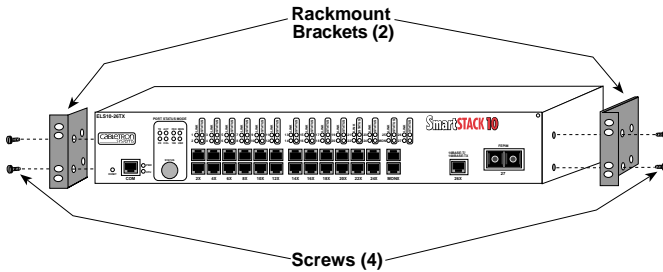

Figure 2-3. Attaching Rackmount Brackets
1. Attach the rackmount brackets to either side of the ELS10-26 chassis, as shown in Figure 2-3.